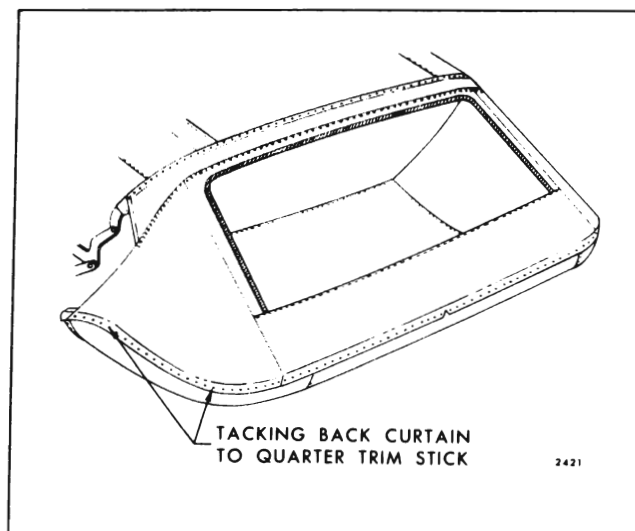

Fig. 13-18—Back Curtain Installation
9. Tack remainder of back curtain material to rear quarter trim stick (Fig. 13-18).